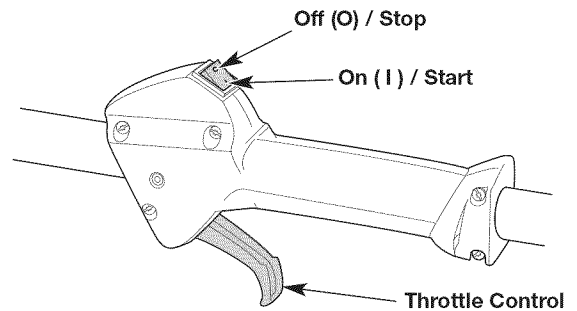
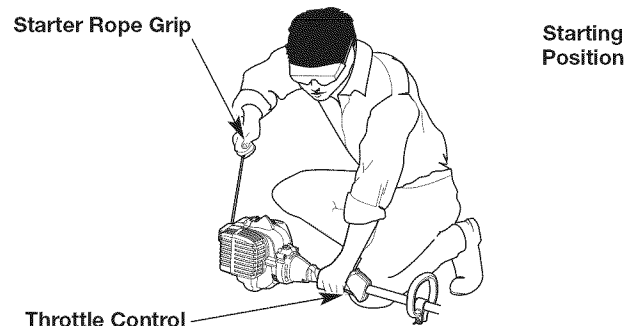

Fig. 6
Fig. 8
**WARNING:** Avoid accidentally starting the unit. To avoid serious injury, the operator and the unit must be in a stable position when pulling the starter rope (Fig. 8).
**NOTE:** There is no need to turn the unit on. The On/Off switch is in the ON ( I ) position at all times (Fig. 6).
4. Crouch in the starting position (Fig. 8).
5. Squeeze and hold the throttle control (Fig. 6). Pull the starter rope with a controlled and steady motion until the unit starts (Fig. 8).
2. Press and hold the On/Off switch in the OFF (O) position until the engine comes to a complete stop (Fig. 6).
- NOTE:** There is no need to turn the unit on. The On/Off switch is in the ON (I) position at all times (Fig. 6).
6. Squeeze and hold the throttle control (Fig. 6). Run the Speed Start™ accessory in intervals no longer than 2 seconds each until the unit starts.